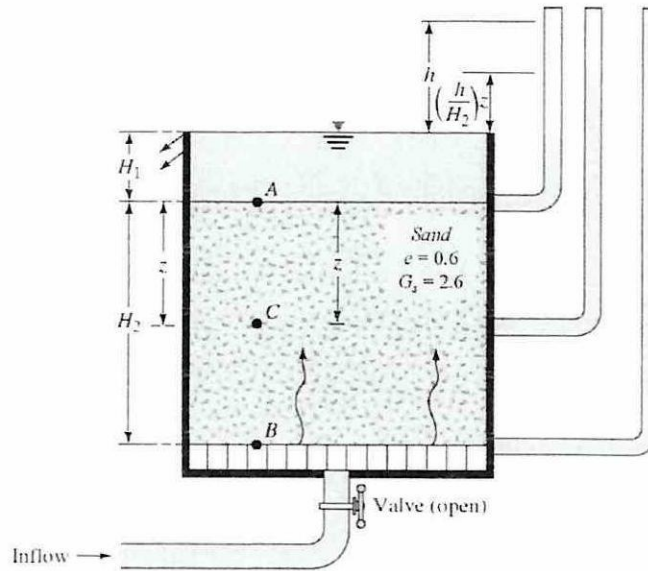

Figure Q1.2 Layer of soil in tank with upward seepage
- (c) **Figure Q1.2** shows a layer of soil in a tank with upward seepage. Given the $H_1 = 1.0$ m, $H_2 = 2.0$ m, $z = 0.5$ m and $h = 1.2$ m.